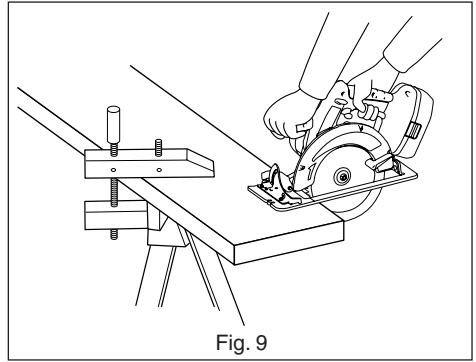

Fig. 9
- Figure 9 shows proper cutting position.